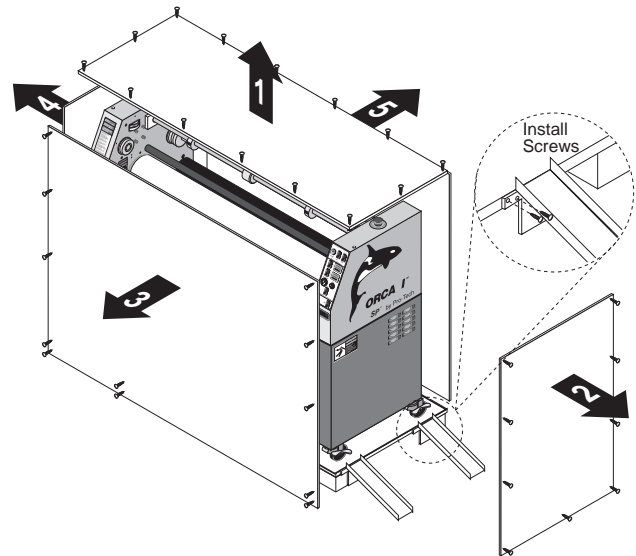

Figure 2-2: Removing the Crate
1. Remove the top of the crate and then the sides in the order shown in Figure 2-2.
A second person must support the side labeled 5 in Figure 2-2. It can fall and damage the laminator.
4. Have the laminator lifted off the skid and placed on the floor by licensed riggers. The ramps included with the laminator can be secured to the edge of the crate bottom using the screws left over from the crate disassembly (see Figure 2-2).